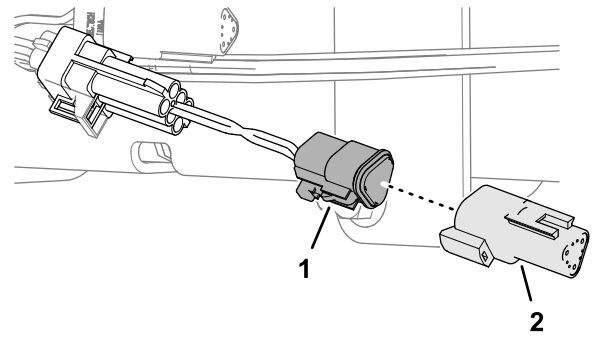

Figure 206
3. Plug the resistor that you removed in 38 Installing the ISO-CAN Bus Harness (page 91) into the 3-socket connector of the adapter harness (Figure 206).